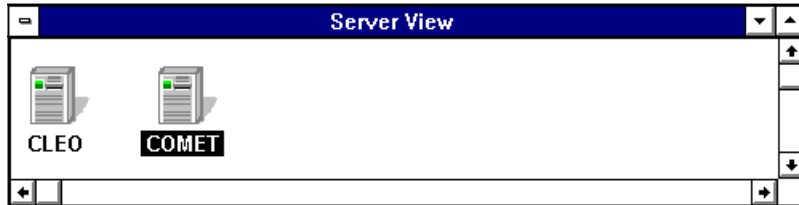

Figure 4-1. Server Icons
- 4 Click the icon of the server whose arrays and spares you want to configure, as shown in Figure 4-1. You can identify the server by the name that appears beneath it.